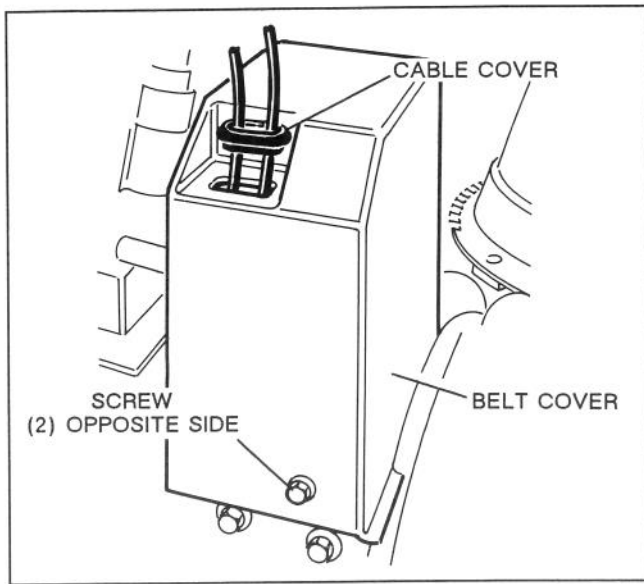

Figure 10
17. Remove three thread forming screws securing upper belt cover to engine base and slide cover up cables (Fig.10). Do not lose cable cover.